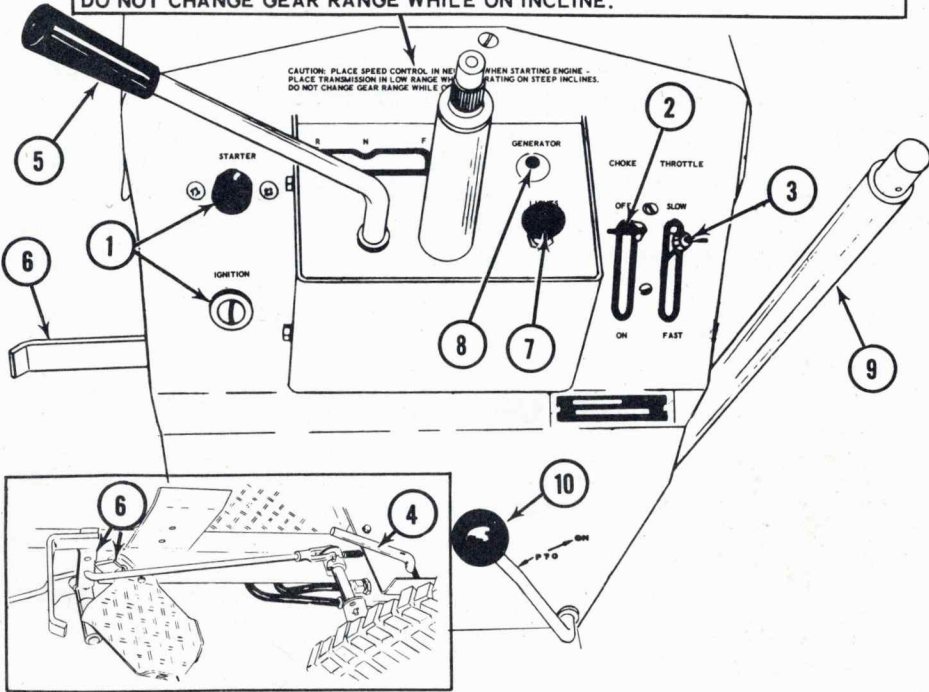

Figure 7
3. Engage and lock the brake pedal (6, Figure 7).